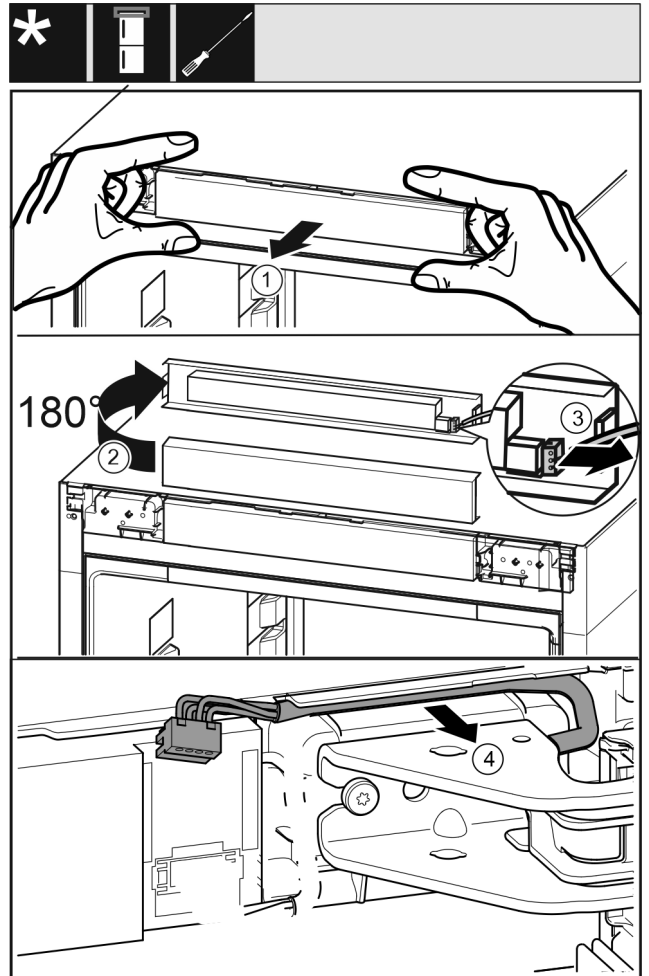

Fig. 14
- ▶ Carefully release the control panel trim Fig. 14 (1) forwards.
- ▶ Turn the control panel trim Fig. 14 (2) upwards by 180°.
- ▶ Push the locking tab Fig. 14 (3) backwards and remove the plug carefully.
- ▶ Release the cable over the swap bearing block Fig. 14 (4) from the guide carefully.